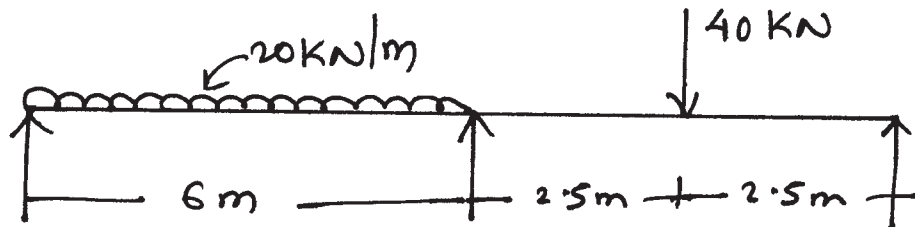

Fig. No. 1
- b) Using theorem of three moment, draw SFD for a continuous beam as shown in Fig. No. 1 having negative B.M. at support B as 66.14 KN/m